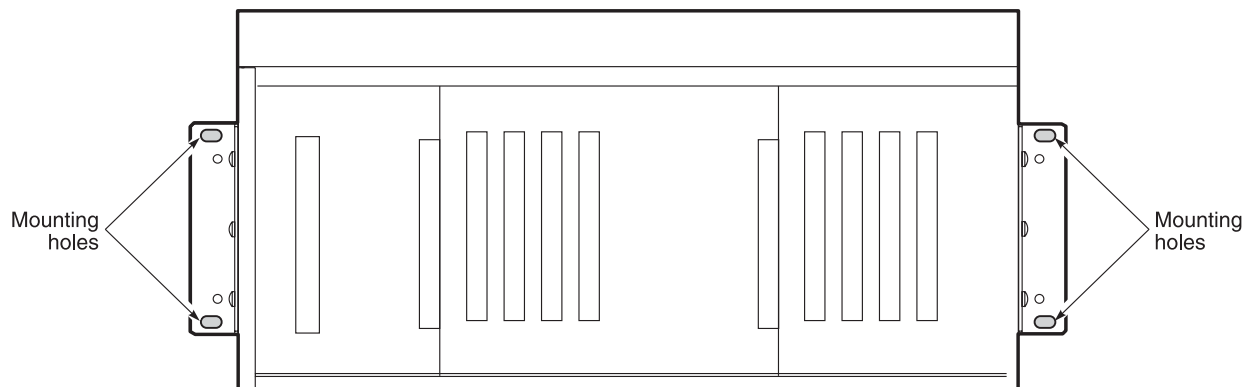

Figure 3. Mounting the FCS-718 List 2B COT Shelf
- 1 Align the shelf universal mounting brackets with the four vertical mounting holes (see Figure 3).